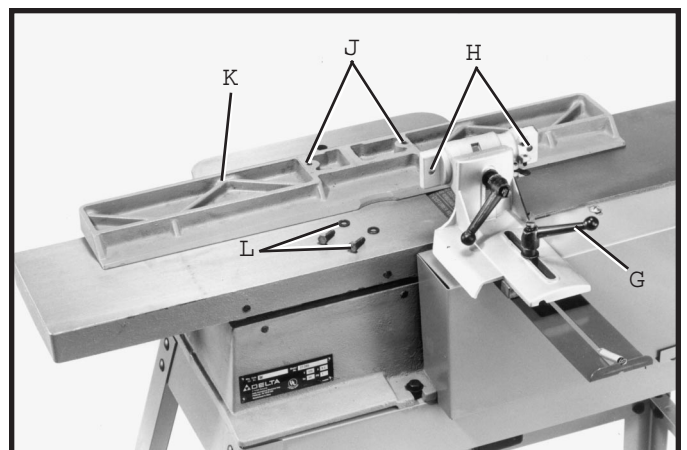
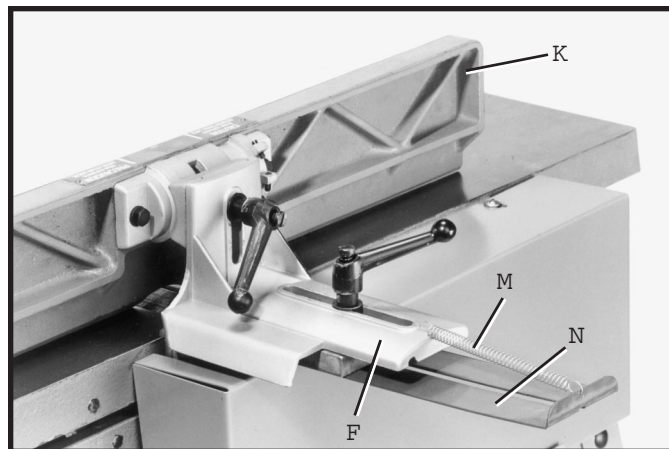

Fig. 15
Fig. 16
3. Fig. 15, illustrates the slide and support brackets assembled to the jointer.
4. Align the two holes in the fence support bracket (H) Fig. 15, with two holes (J) in fence (K) and carefully fasten the fence to the fence support bracket with two flat washers and 1/4-20 x 3/4 square head screws (L) as shown in Fig. 16.
5. Assemble the free end of spring (M) Fig. 16, onto the rear edge of bracket (F). NOTE: The tension on spring (M) Fig. 16, automatically allows safety guard (N) to move forward with the fence (K) and over the rear of the cutterhead for operator safety.